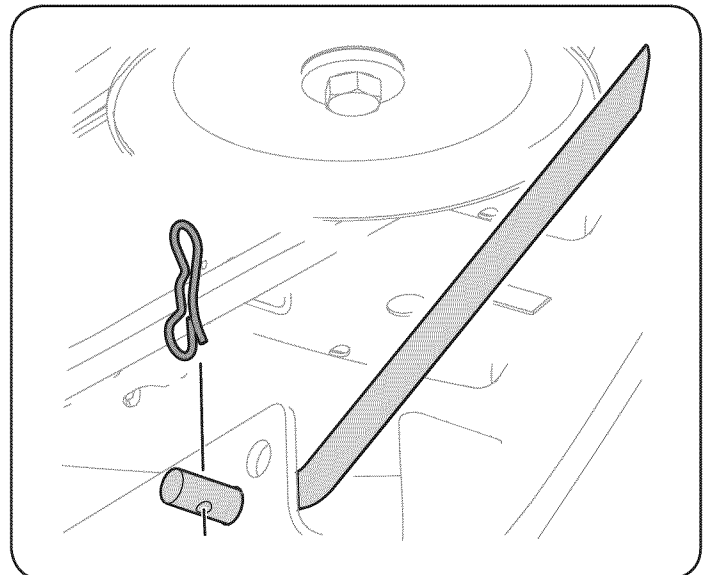

Figure 27
7. Pull the bow-tie pin out of the front deck lift rod securing it to the deck. See Figure 27. Slide the deck lift rod out of the front hanger bracket.